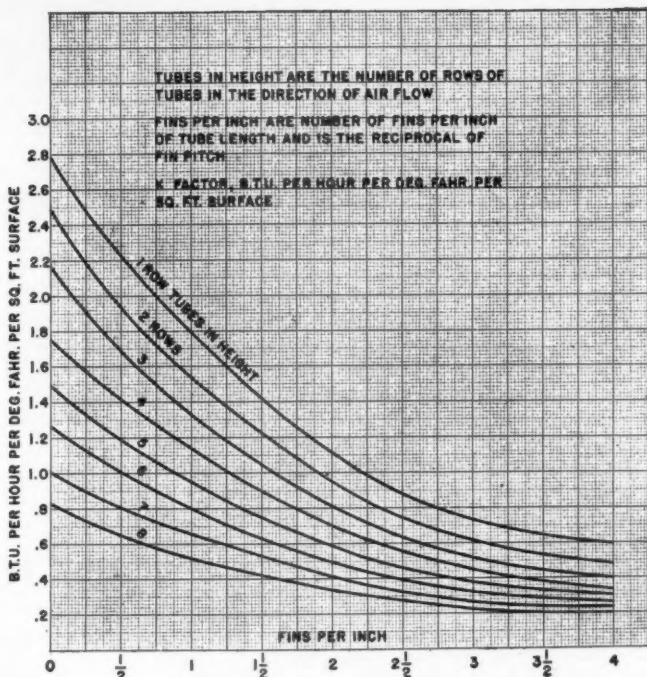

FIG. 2
1. The K factor of a coil increases as the fin spacing becomes wider, or the fins per inch become less. This is illustrated in the curve shown in Figure 2.
2. The K factor of the coil increases as the coil becomes shallower or thinner in the direction of air flow. Figure 2 illustrates this point as well.